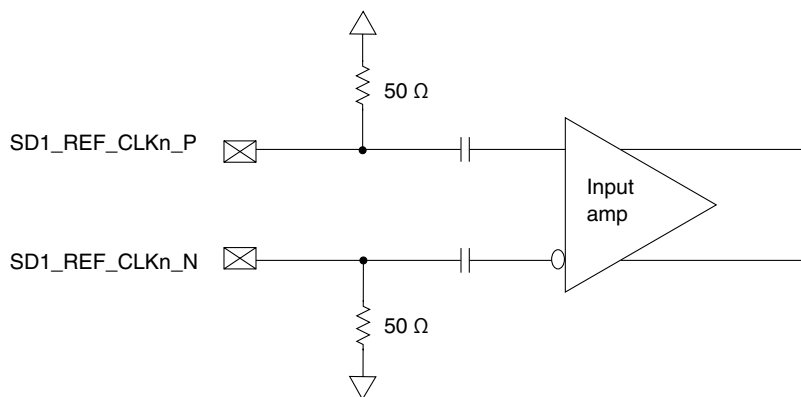

Figure 88. Receiver of SerDes reference clocks
- The $SD1_REF_CLKn_P$ and $SD1_REF_CLKn_N$ are internally AC-coupled differential inputs as shown in Figure 88. Each differential clock input ($SD1_REF_CLKn_P$ or $SD1_REF_CLKn_N$) has on-chip 50- Ω termination to $SGNDn$ followed by on-chip AC-coupling.
- For an external DC-coupled connection, as described in Figure 88, the maximum average current requirements set the requirement for average voltage (common mode voltage) as between 100 mV and 400 mV.